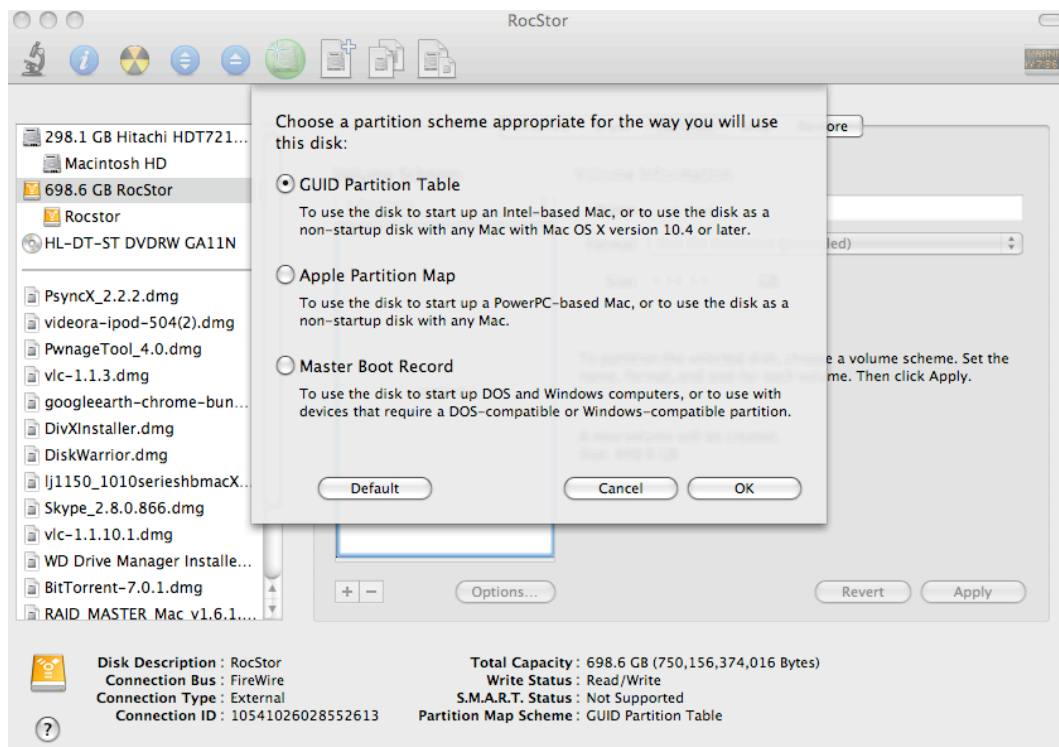

Figure 6.0
11. If you are using Tiger, Leopard, Snow Leopard or Lion click on Options on the lower center of the window. Select the Partition Scheme for your Rocstor drive. Suggest you select **"Apple Partition Map"** for Tiger, Leopard, Snow Leopard and GUID partition table for Lion, (figure 6.0) and then click OK.